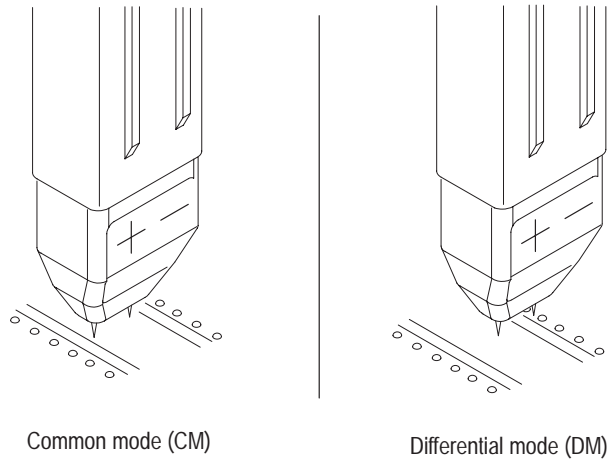

Figure 4: Probe Calibration Fixture test points
5. Using the fine position and/or pressure adjust, maneuver the probe so that the pins contact the CM or DM test points, depending on which test you are performing. (See Figure 4 on page 6.)